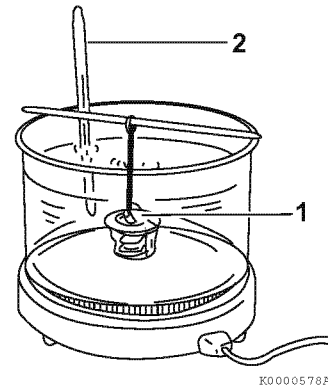

Figure 8-11
1. Check for proper operation of the thermostat. Place the thermostat (1, Figure 8-11) and an accurate thermometer (2, Figure 8-11) in warm water.